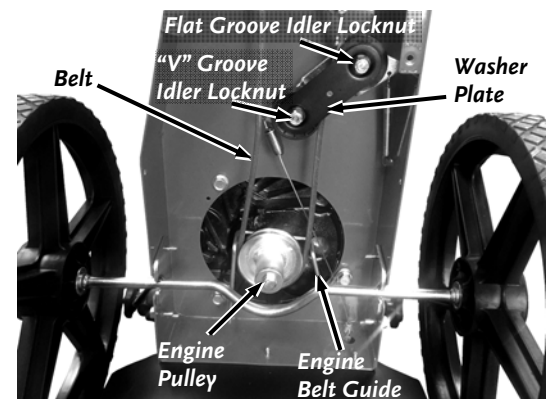

Figure 24
4. Remove the Locknut that secures the Washer Plate to the flat groove Idler Pulley using a 9/16" Wrench (**Figure 24**). Loosen the other Locknut to the V groove Idler Pulley using a 9/16" Wrench just enough so the Washer Plate can be rotated out of the way.
10. Rotate the Washer Plate onto the Flat Groove Idler Stud and install the Locknut using a 9/16" Wrench (**Figure 24**). Tighten both Idler Locknuts using a 9/16" Wrench.